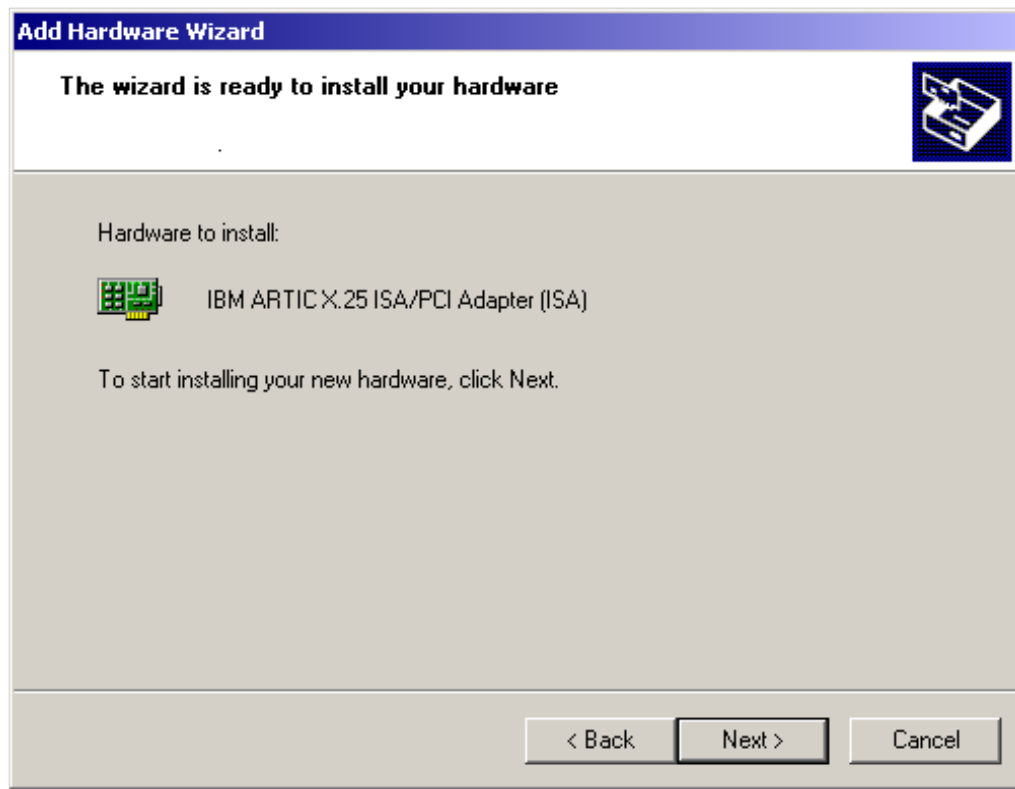

FIGURE 195. Installation ready window
28. Figure 195 confirms your selection.